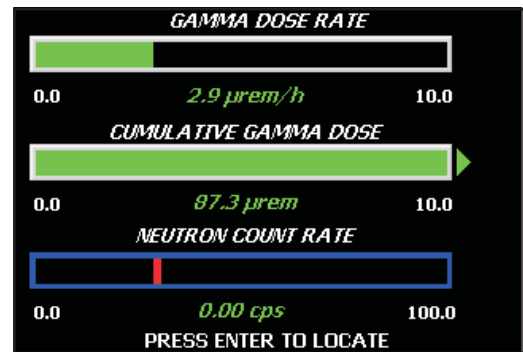

Figure 18 Composite Neutron Display
- Composite Neutron – Displays the current Gamma Dose Rate, the Cumulative Gamma Dose and the Neutron Count Rate as bargraphs (Figure 18).